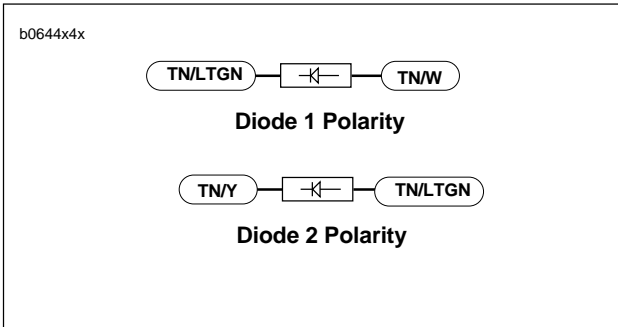

Figure 7-10. Diode Polarity
2. Check diode polarity as shown in Figure 7-10.